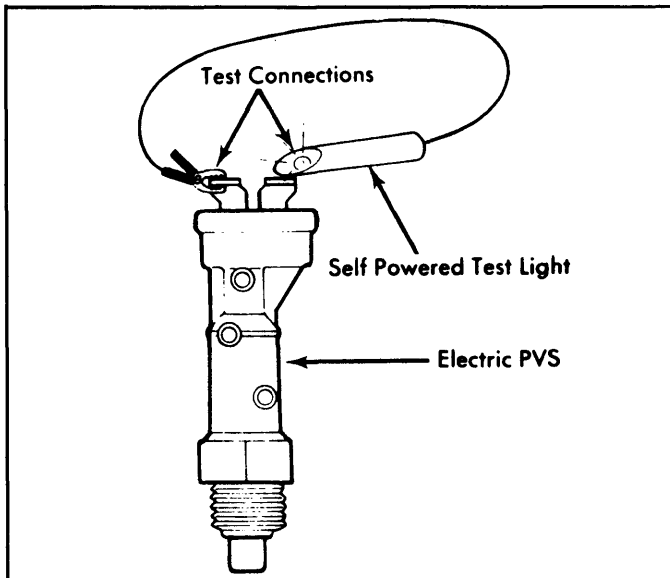

Fig. 4: Testing Electric PVS Valve
1) The PVS section should be checked as a regular three port PVS. To check the electrical section, connect a self powered test light to switch. See Fig. 4. On the normally closed switch with the coolant temperature cold the light should glow.